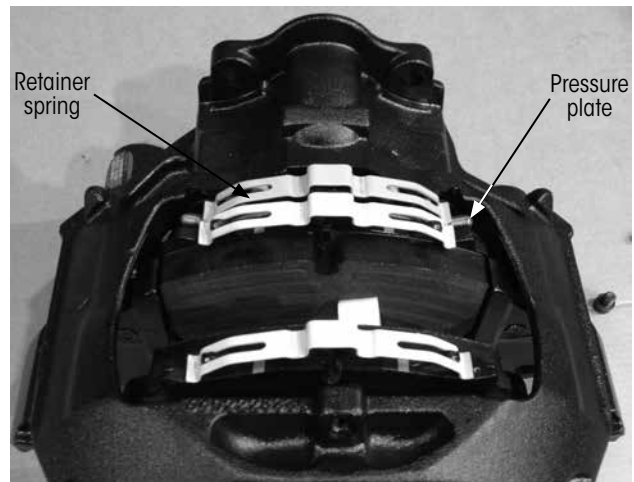

Figure 18: Retainer spring, pad retainer bar removed
4. **Remove** the retainer spring from the pressure plate (Figure 18).